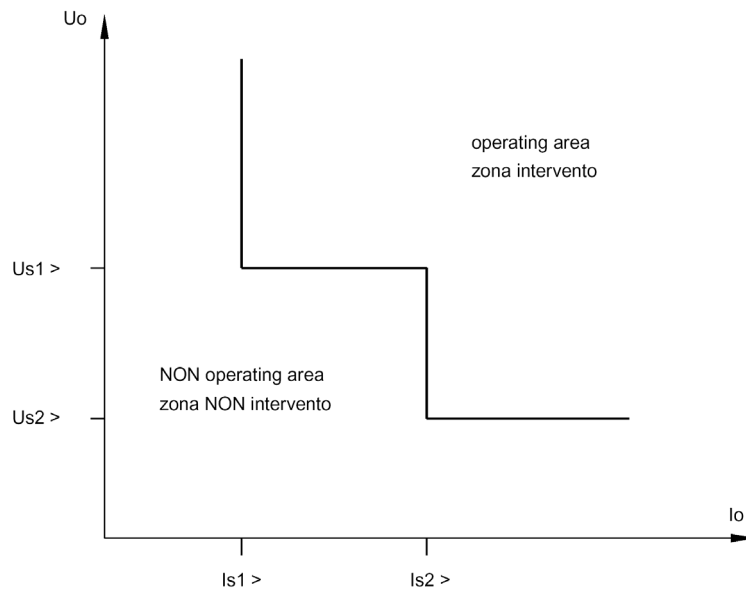

Figure 2
The thresholds **N1** and **N2** (current thresholds **Io1>** and **Io2>** and voltage thresholds **Uo1>** and **Uo2>**) are logically combined (OR) to obtain the threshold **NA** and they allow you to have an operating voltage-current characteristic as showed in figure 2 (for any characteristic angle $\Phi_{NSA}<$); this characteristic allows very low voltage and current thresholds with a NON operating zone around the origin; the threshold **N3** remains independent.